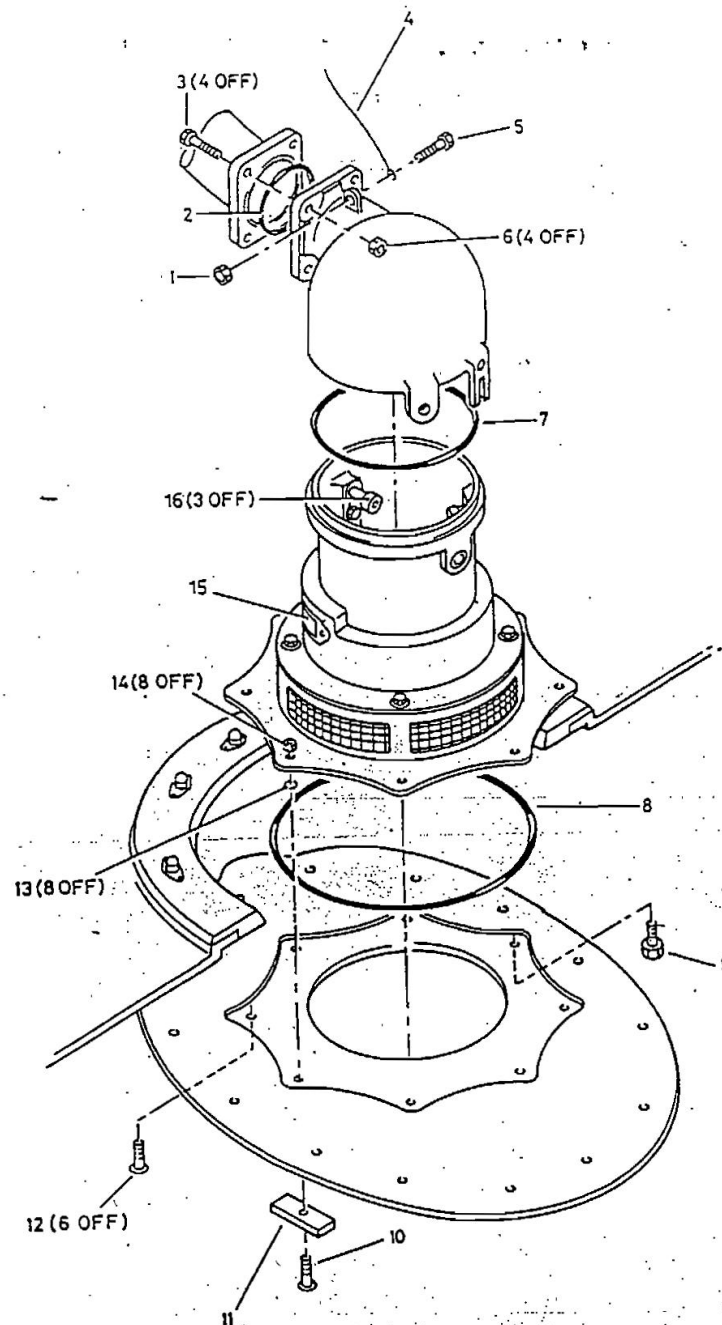

FIG. 4.1 EXPLODED VIEW
*Illustrations shall accompany with a spare parts list. An example of the illustration is shown in Fig 4.1 Exploded View. Each item of spare parts shall be given a Figure Reference and Item Number and the numbers shall be numbered consecutively. The Figure and item numbers shall be shown clearly to identify the parts in the spare parts list.*